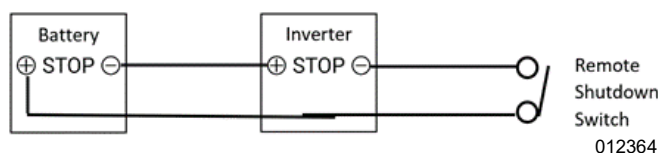

Figure 4-14. Remote Shutdown Switch Series Wiring
2. See Figure 4-14. The STOP terminals and remote shutdown switch can be wired in one series circuit. In this case polarity matters. Wire the "STOP+" of first device to "STOP-" of second device. Then wire the two remaining "STOP" terminals to the remote shutdown switch.